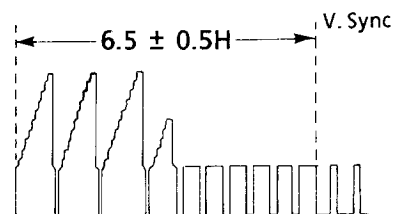

Figure 2-2
- (1) Connect a dual trace oscilloscope to test point TP502 located on the Y/C PWB and the VIDEO OUT jack. (Triggered on TP502)
- (2) Play the alignment tape.
- (3) Press both tracking control buttons at the same time to set the tracking in center.
- (4) Adjust R701 so that the edge of the head switching pulse is 6.5H (lines) ahead of the vertical sync as shown in Figure 2-2.